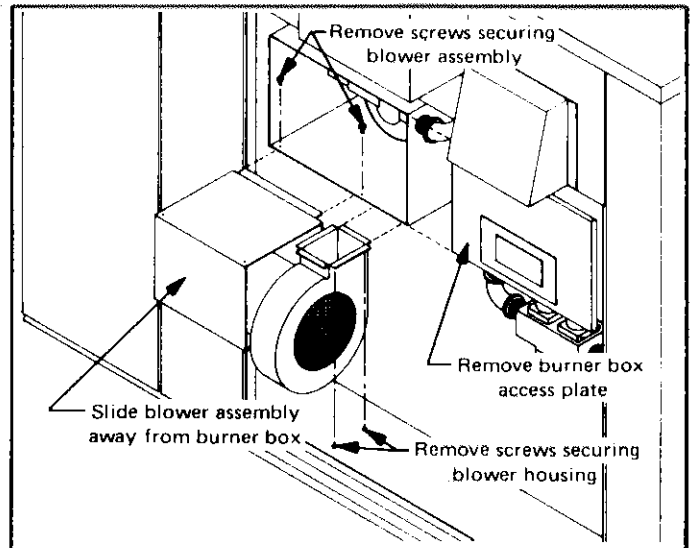

FIGURE 16
- 2 - Remove (2) screws securing combustion air blower motor assembly. See Figure 16.
away from the unit as illustrated in Figure 16.